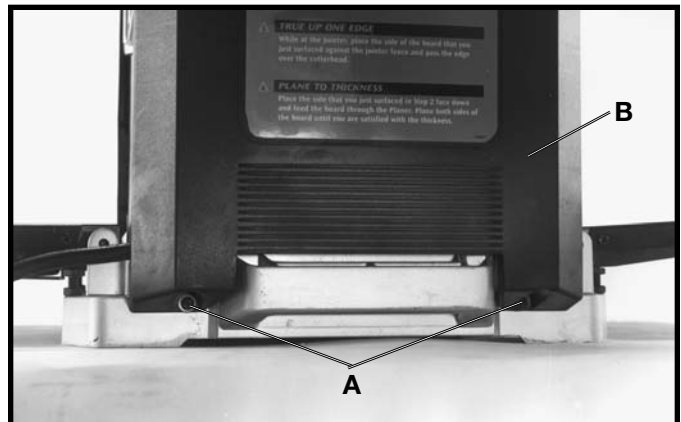

Fig. 38
1. Remove two screws (A) Fig. 38, located on bottom of left side cover (B) of planer, and remove left side cover.